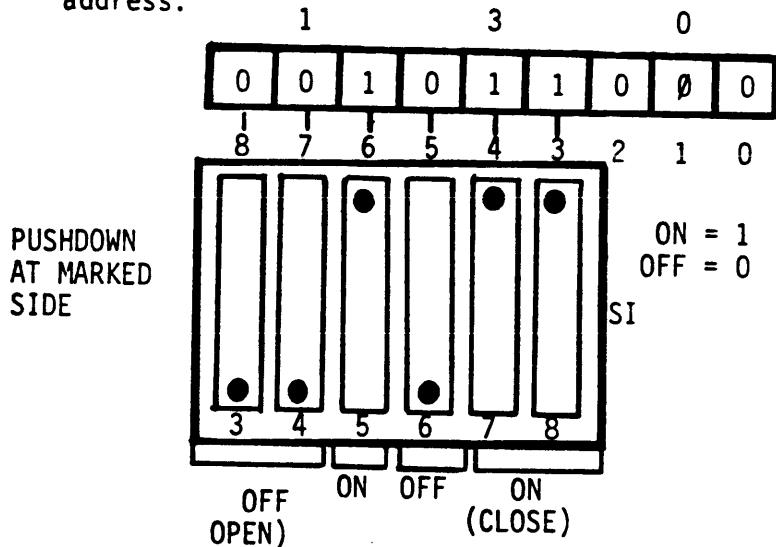

Figure 6.2
6.2 processor with the internal priority being arranged such that the A/D Done interrupt has the higher priority of the two if both occur simultaneously and are both enabled. The interrupt vector address in the 000_8 - 770_8 vector address space in 10_8 increments. The interrupt vector of the Error Interrupt is then always 4_8 locations higher than the A/D Done interrupt vector address. The recommended interrupt vector address for the DT2760 series is 130_8 and is set to that value at the factory. Figure 6.2 shows how switch SW2 must be set to generate this address.